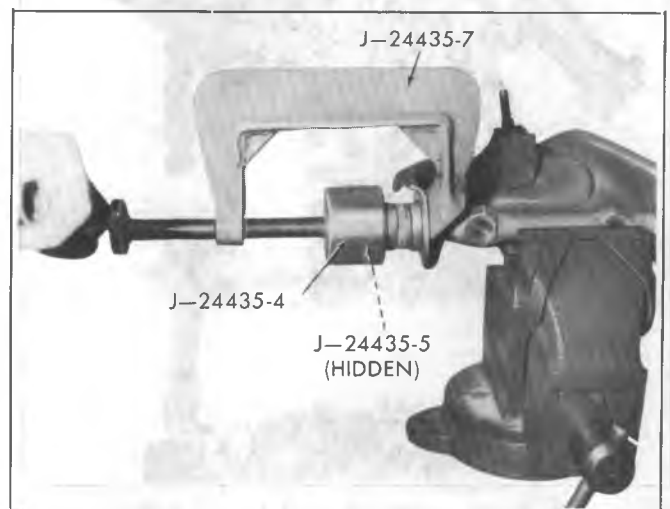

Fig. 3C-23--U.C.A. Rubber Bushing Installation
4. Loosen upper control arm ball stud in steering knuckle, using Tool J-23742 position as shown in Figure 3C-21. Remove the nut from the ball stud and raise upper arm to clear steering knuckle.
#### Removal (Fig. 3C-22)